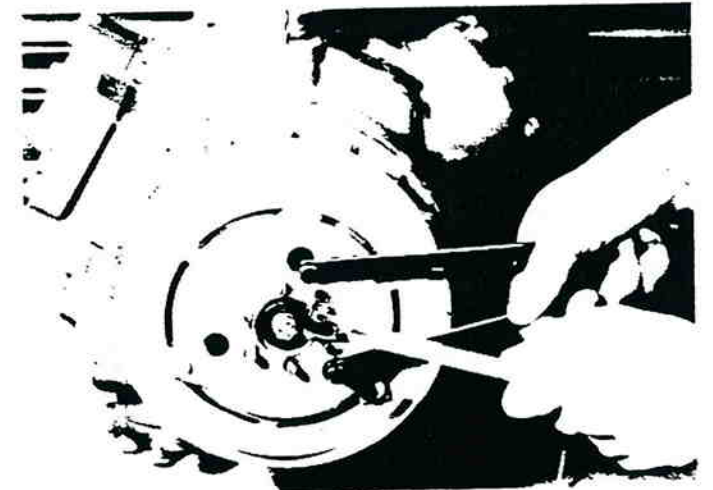

Figure 16-61: Removal of Armature Retaining Nuts
14. Install tool 20-296 to prevent armature rotation and remove the six armature-to-hub retaining nuts and washers (figure 16-61).